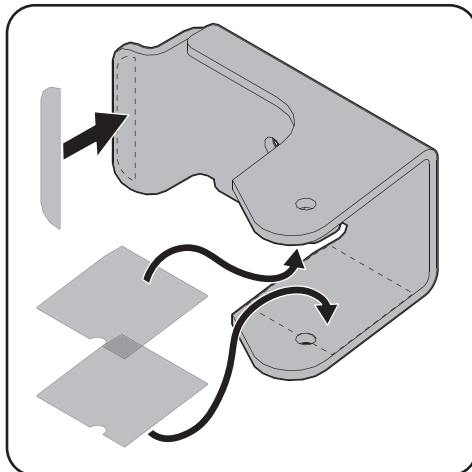

Figure 4-31
- Before assembly, peel the adhesive decals from the sheet and apply to the inside faces of the right and left weight hanger brackets, as shown in Figure 4-31.